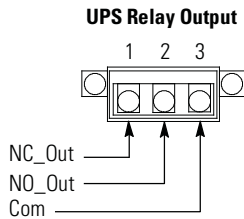

Figure 4-21. Relay Contact Terminal Block Connector Assignments
14. Connect the relay output interface wiring to the relay output terminals. See paragraph 3.2.4 and Table 4-2 for wiring and termination requirements, and Figure 4-21 for terminal assignments.